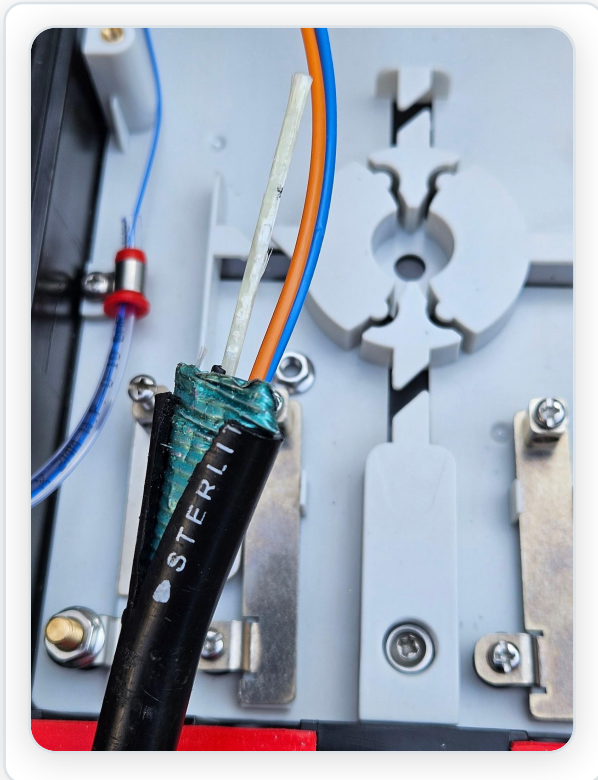

Fig. 1
- Expose the armored sheath per local practices as shown in Fig. 1.